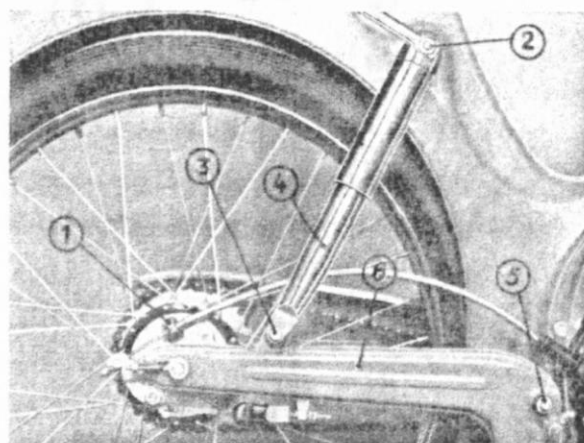

Fig. 26: Pivoted fork and shock absorber
Hitch nipple to rear wheel brake lever, pull at cable covering, and hitch covering to lug (Fig. 26/1) of brake back plate.
1. Loosen one of the two nuts of the top joint bolt (Fig. 26/2) and pull out bolt with the other nut.
2. Loosen nut of the bottom joint screw (Fig. 26/3), pull out screw, push spacer shell out of the silent block, and take off shock absorber (Fig. 26/4).
e) Removal of pivoted fork (Fig. 26):
3. Remove shock absorbers (Fig. 26/4).
5. Loosen nut of pivoted fork spindle (Fig. 26/5) knock out spindle, and take off pivoted fork (Fig. 26/6) together with prop-stand.